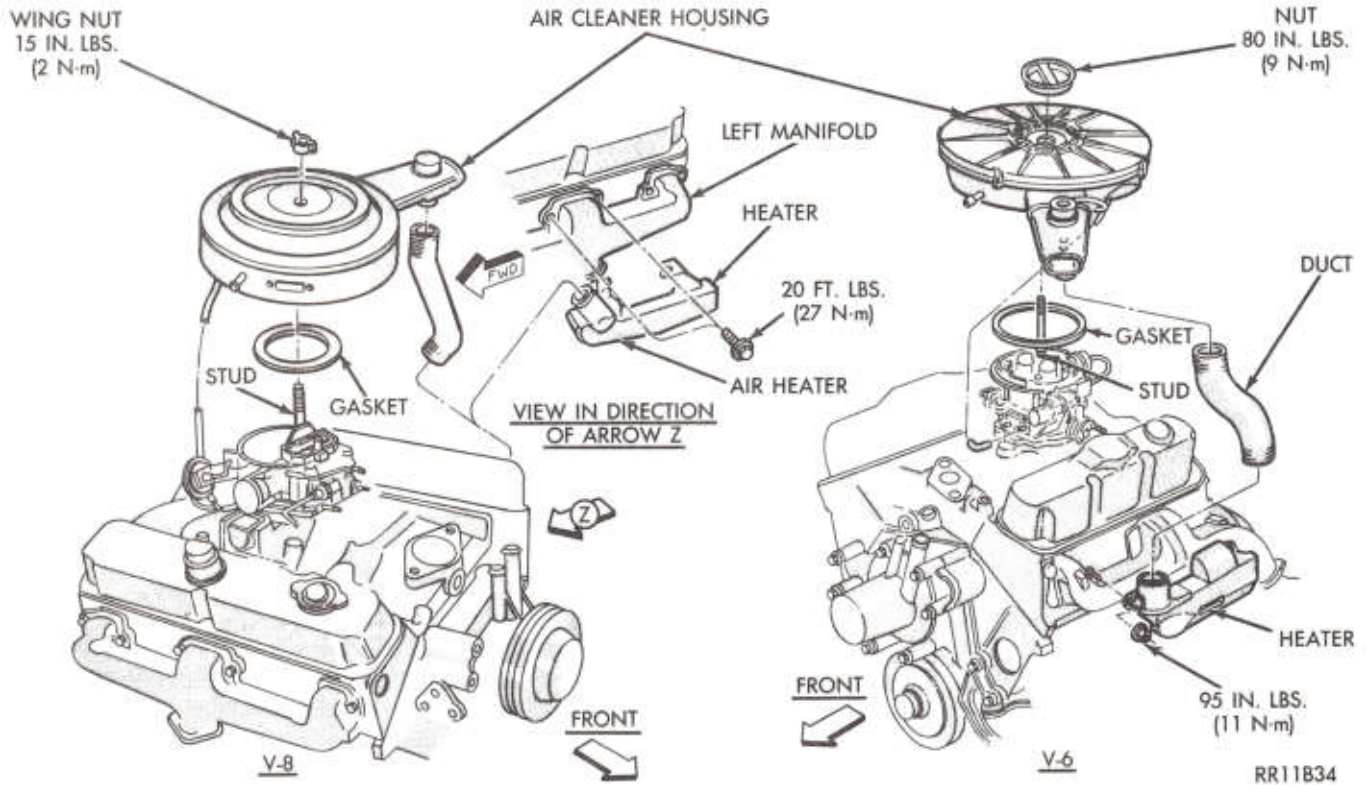
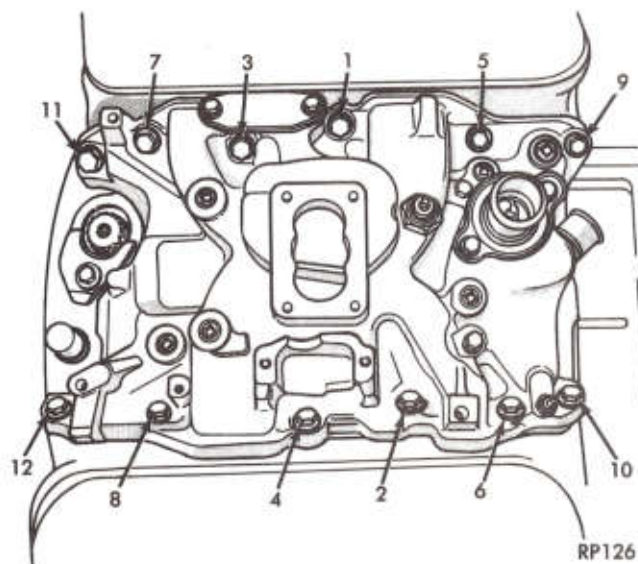

Fig. 7—Air Cleaner and Air Heater, V6 and V8 Engines
Fig. 10—3.9L Intake Manifold Screw Tightening Sequence
Air Heater—Removal (Fig. 7)
Air Heater—Installation (Fig. 7)
(11) Install the twelve attaching cap screws "Finger Tight". Tighten cap screws one through four to 25 ft. lb. (34 N·m) and tighten remaining cap screws to 25 ft. lb. (34 N·m) in the tightening sequence shown in (Fig. 7) then retighten cap screws one through four to 40 ft. lb. (54 N·m) and follow by retightening the remaining cap screws 40 ft. lb. (54 N·m) in sequence shown (Fig. 10).